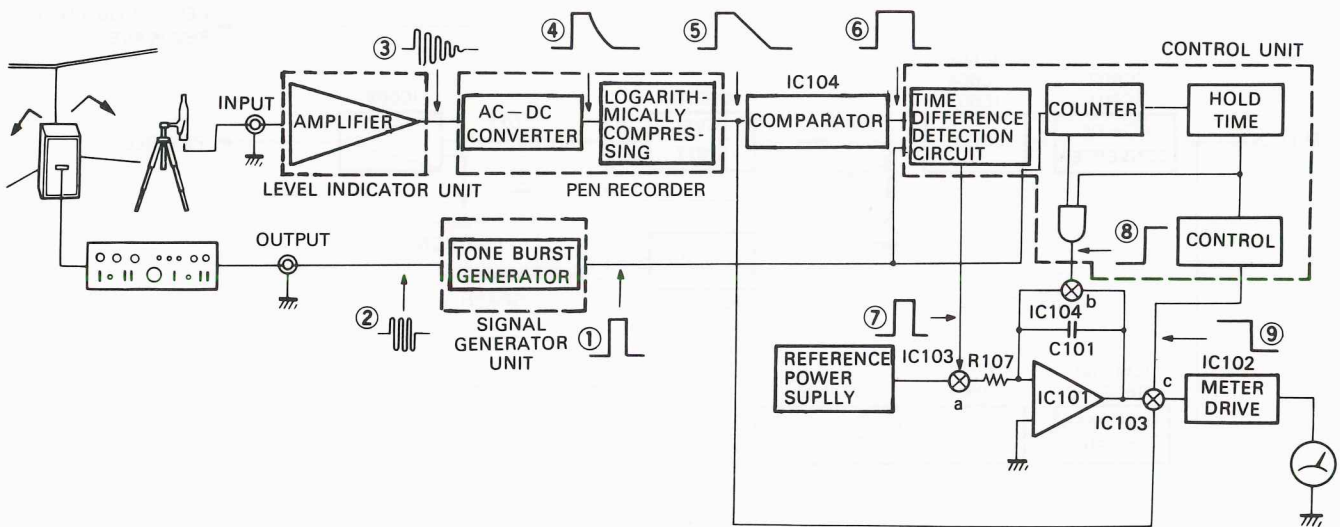

Fig. 5 Block Diagram (Reverberation Time Measurement)
The reverberation indicator unit consists of the time integrator to measure reverberation time, -20 dB detector circuit and meter drive circuit. Reverberation time is a time at which the signal is attenuated to -60 dB. The tone burst signal from the tone burst generator is amplified to drive the speaker, and the sound wave from the speaker is fed to the microphone. The microphone signal is then amplified to the required level by the SE-3000 level indicator unit so as to be fed to the pen recorder unit. This signal is converted into DC signal and logarithmically compressed when the portion of reverberation time becomes a straight line as shown in the waveform "⑤". (Fig. 5). The comparator circuit detects the time at which the attenuation curve reaches -20 dB. The detected time is fed to the time difference detecting circuit to produce a square wave corresponding to the reverberation time, which is integrated and indicated on the meter by the meter drive circuit.